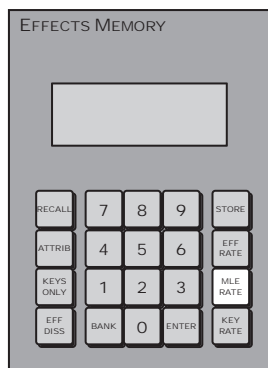

Figure 5.15 MLE Rate — Effects Memory Module
1. Press **MLE RATE** on the **Effects Memory Module** for the MLE that you want to set the background transition rate for (Figure 5.15).